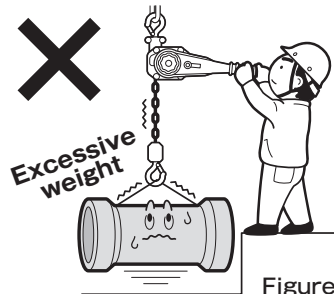
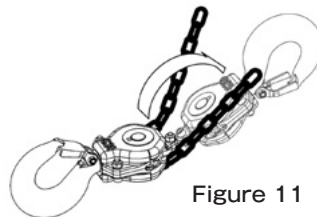

Figure 10
Figure 11
- (1) Never suspend loads exceeding the rated load. (Figure 10)
- (2) Do not use this equipment if it is damaged or emits abnormal noises.
- (3) Never use load chains that are twisted, tangled, cracked, have abnormal meshing, or are elongated or worn beyond specified limits.
- (4) If attached with two or more load chains, do not use this equipment if the bottom hook is in an abnormal state of passing through the load chains. (Figure 11)
- (5) Do not intrude into the area beneath the load or within the moving range of the load. Additionally, do not move the load above anyone.
- (6) Never operate the hoist in such a manner as to let the load drop even a slight distance.
- (7) Never cut, splice, or weld the load chain.
- (8) Do not operate the lever hoist if the load cannot be suspended from the center portion of the hook.